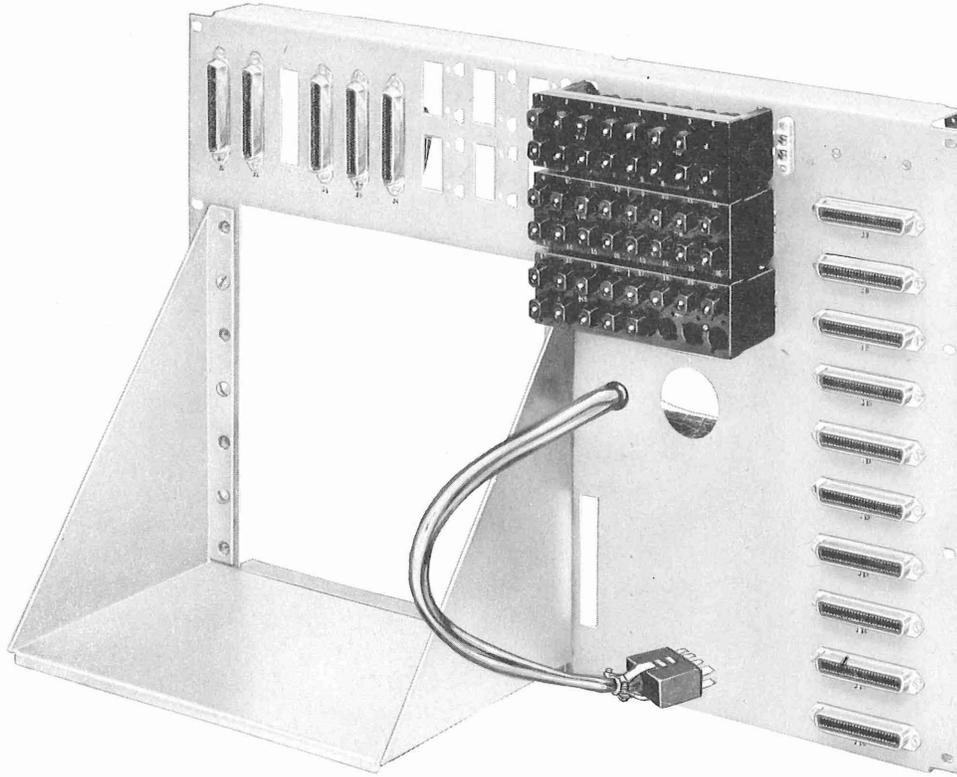

Fig. 2—1A2 Data Mounting, Front View (Power Supply Removed)
1.07 The 1A2 Data Mounting (Fig. 2) contains a 31A Power Unit that drives lamps on Data Auxiliary Set 804J-type and up to 20 data sets with their associated 2A1 Data Mounting circuitry. Fifteen 50-pin connectors are provided to interconnect the 1A2 Data Mounting into the 103E Data Station.